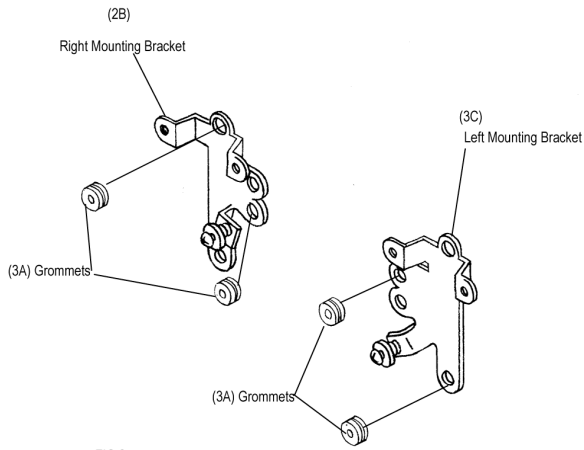

FIG 2
6. INSTALL THE GROMMETS (2A) IN THE HOLES ON THE RIGHT (2B) AND LEFT (2C) MOUNTING BRACKETS AS SHOWN IN FIGURE 2.